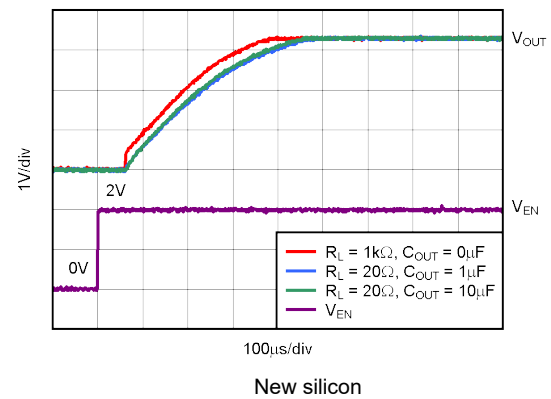

Figure 5-40. TPS73633 Turn-On Response
The enable pin (EN) is active high and is compatible with standard TTL-CMOS levels. V_{EN} below 0.5V (max) turns the regulator off and drops the GND pin current to approximately 10nA. When EN is used to shutdown the regulator, all charge is removed from the pass transistor gate. A V_{EN} above 1.7V (minimum) turns the regulator on and the output ramps back up to a regulated V_{OUT} (see Figure 5-40).